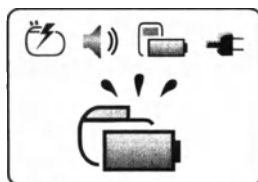

Figure 2.8 Neurostimulator charge sufficient screen.
7. When your neurostimulator has a charge sufficient for use, you will see the **Neurostimulator charge sufficient** screen (Figure 2.8)